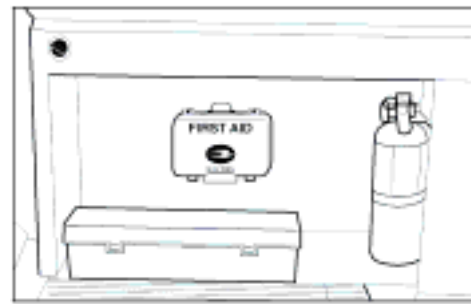

Figure 2—Emergency Equipment Located Left of Driver's Seat
Your bus may be equipped with a 2-3/4, 4-1/2, 5- or 6-pound extinguisher. **Figure 2—Emergency Equipment Located Left of Driver's Seat.**
Inspect installation mounting fasteners every thirty (3) days to ensure that the installation is accessible, unobstructed and tight. **Figure 2—Emergency Equipment Located Left of Driver's Seat.**